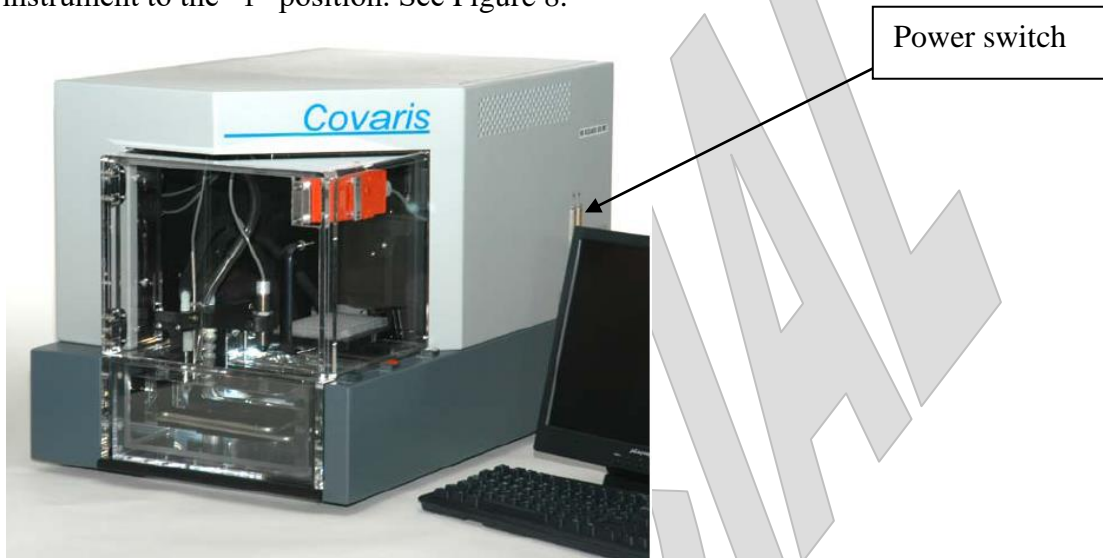

Figure 8: Covaris LE-series
2. If the LE220 is powered off, power it on by flipping the switch located on the right of the instrument to the “1” position. See Figure 8.